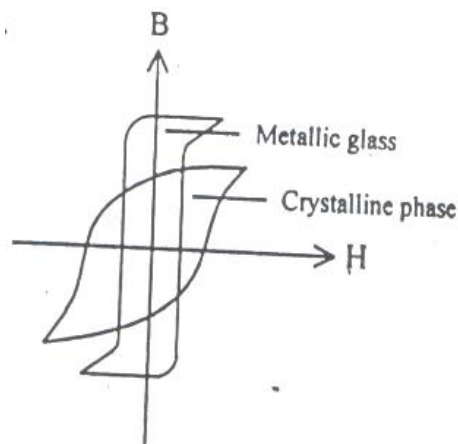

Fig 5.2 Hysteresis loop
- (b) They have very narrow hysteresis loop as shown in figure 5.2. In the hysteresis loop of the metal alloy in crystalline phase is also given for reference.